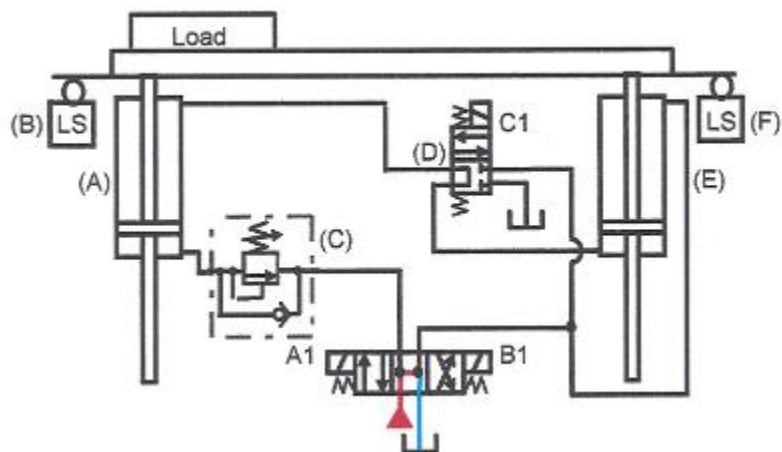
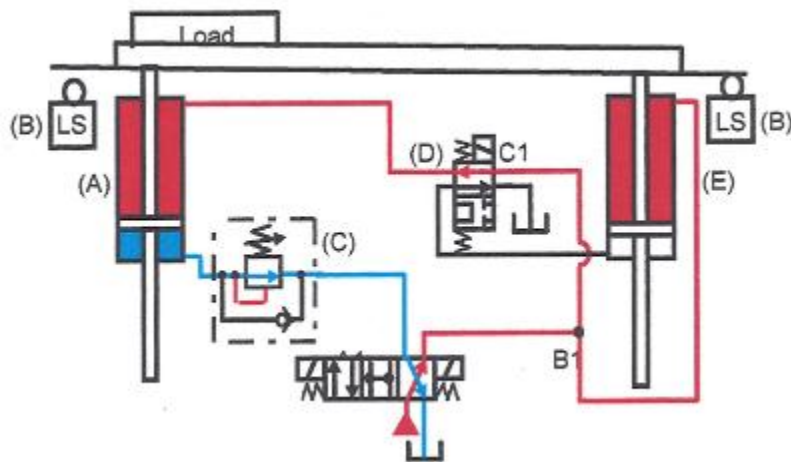

Figure 22-7. Synchronizing circuit with double-rod end cylinders in series flow -- at rest with pump running.
Figure 22-10. Synchronizing circuit with double-rod end
Figure 22-7 shows a fairly accurate way of synchronizing cylinders using double-rod end cylinders piped in series. Oil from the directional valve extends the first cylinder, the first cylinder's top port supplies oil to extend the second cylinder, and the second cylinder's top port connects to the other port of the directional valve. In this arrangement, oil trapped between the
In Figure 22-7, when 2-position, spring-centered, single-solenoid, tandem-center leveling valve D is deenergized, it allows oil to flow from cylinder (A) to cylinder (E). The valve is deenergized while the cylinders extend and retract to do work. (Figure 22-10 shows how the cylinders are leveled at the end of a cycle.)
Figure 22-10 shows how the cylinders maintain synchronization as they cycle. When the platen nears bottom, it contacts limit switches B and F. If the switches make simultaneously, no leveling occurs. If one limit switch makes before the other, the cylinders obviously are out of synchronization, so solenoid C1 on the leveling valve energizes. With solenoids B1 and C1 energized, pump oil flows to the retract sides of cylinders (A) and (E), forcing them to retract fully. Cylinders (A) and (E) can retract because the extend sides of both cylinders have a direct path to tank. When both limit switches make, the leveling valve and retract solenoids deenergize. (This leveling circuit also works for horizontally mounted cylinders.)